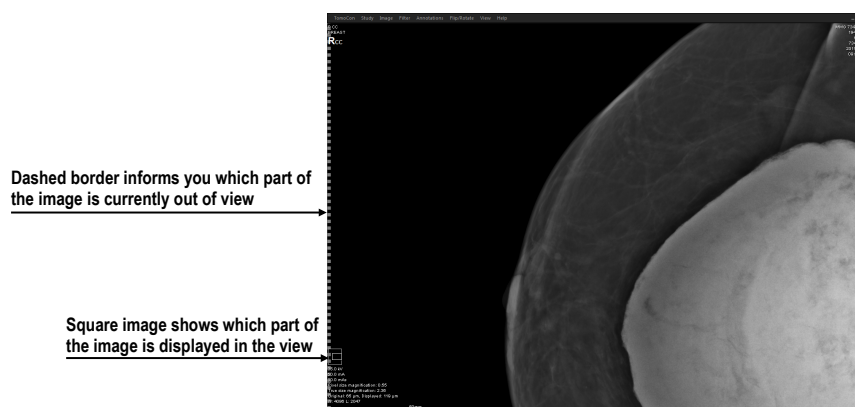

Figure 75 – Active checkered border
- The **Show checkered border when the entire image is not displayed** check box – if checked and the image in the mammography view is zoomed out of the view's size, the image is partially bordered with a dashed line to indicate which part of the image is displayed out of the view (see Figure 75).